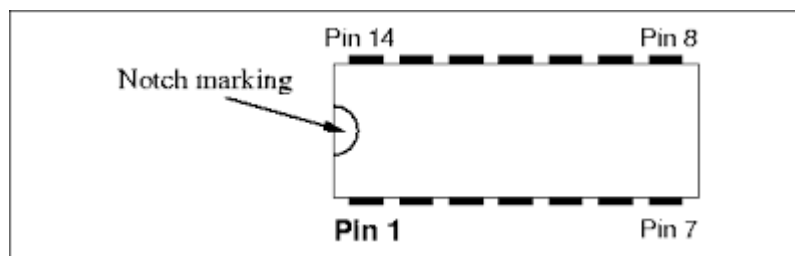

Figure 8
4. Plug the 74LS04 into the breadboard. You may have to carefully bend the pins slightly inward to line them up with the holes in the solderless breadboard (Figure 7). Be sure the 74LS04 is plugged into the board with the notch marking toward the power supply module. See the pin diagram for a 14-pin integrated circuit (IC) in Figure 8.